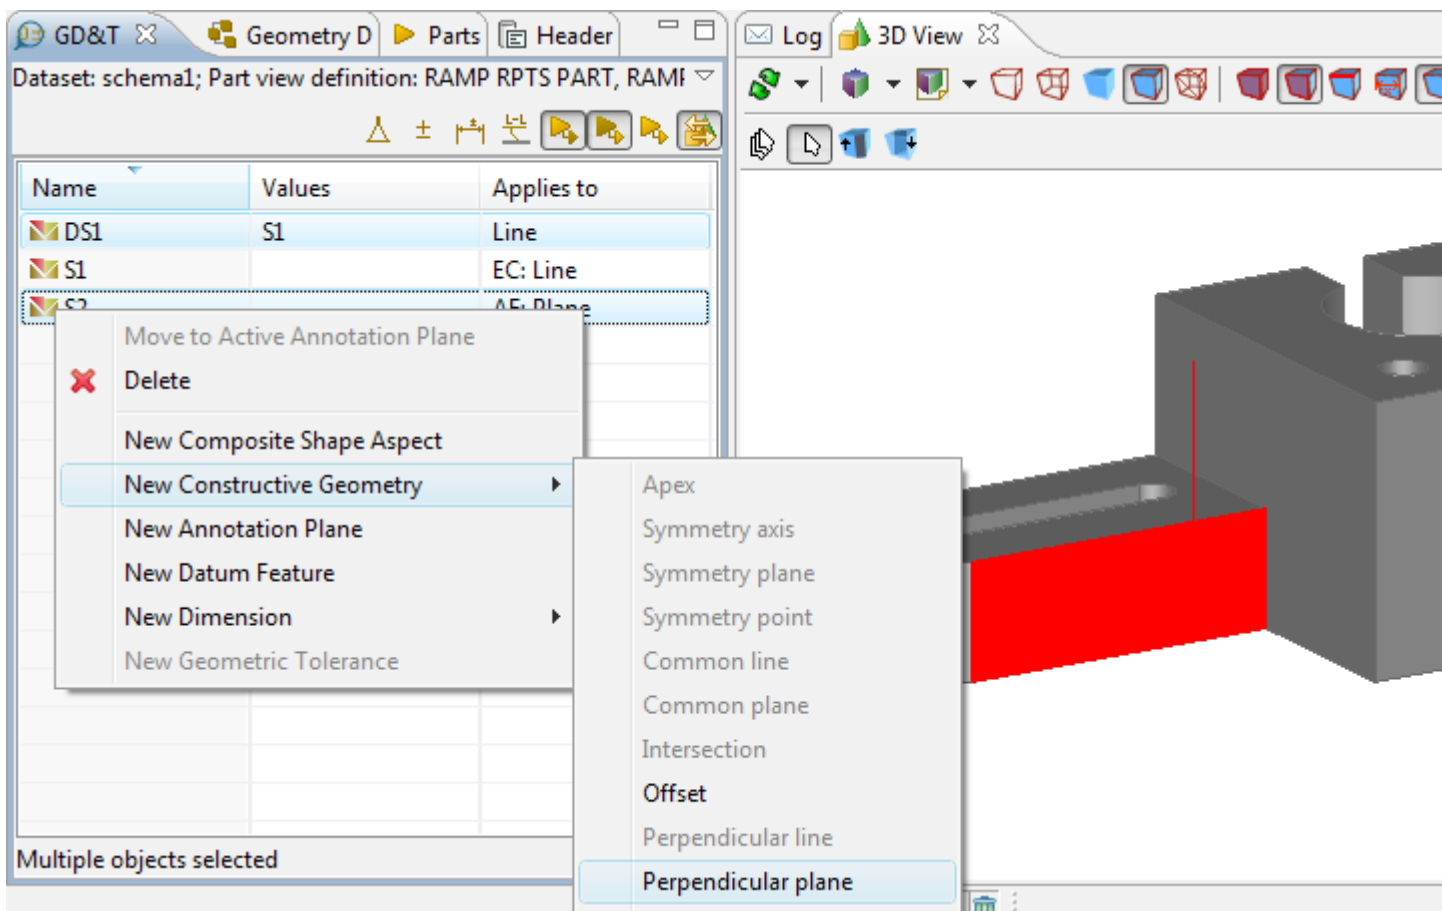

Figure 1. Selected items: plane and line, menu item to create perpendicular plane in GD&T view and surface and line in 3D View
- Right click and select **Create Constructive Geometry -> Perpendicular plane** item in the appeared context sensitive menu (see Figure 1).